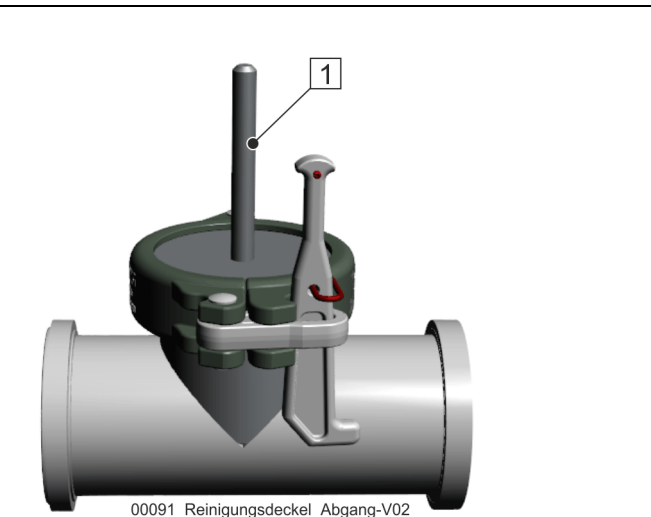
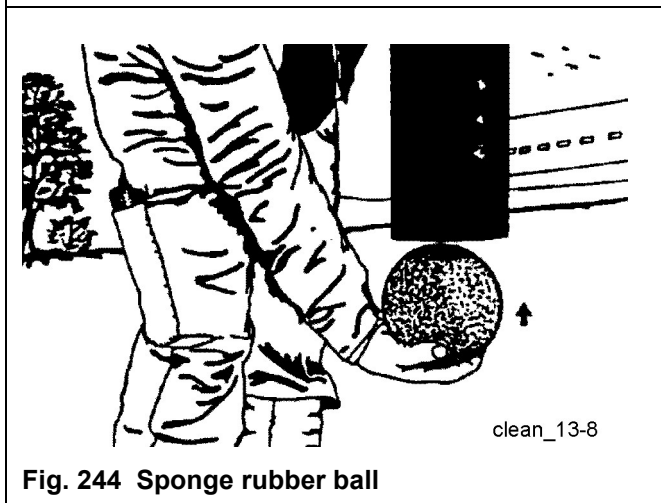

Fig. 243 Cleaning cover "pumping position"
Fig. 244 Sponge rubber ball
A pumping pipe with a cleaning cover (1) **(Fig. 243)** is available as special equipment. If the top cover is installed reversed, it retains the cleaning ball during reverse pumping.
6. Switch agitator to reverse if the machine is not equipped with an automatic adjustment of the agitator rotational direction to pumping or suction operation. Do not forget to switch. Machines with a VECTOR (II) control system switch automatically.
7. Push the damp sponge rubber ball into the end hose **(Fig. 244)**, then switch the concrete pump to "Suction" (reverse running) with a lower stroke rate.
9. Remove the cleaning cover (1) **(Fig. 243)** and take out the cleaning ball.
10. Reinstall the cleaning cover (2) **(Fig. 243)** in "pumping position".